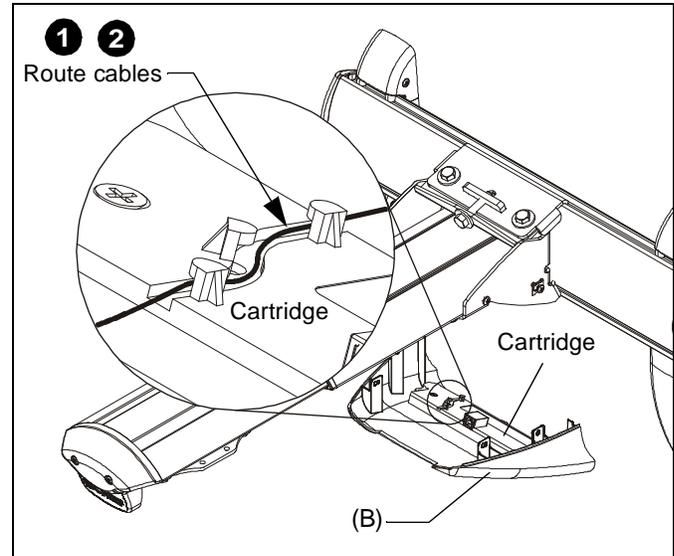

Figure 6
1. Connect USB cable (H) to cartridge in interactive cover (B), and route cable through strain relief channel on cartridge.
2. Route cables from projector through strain relief channel on cartridge in interactive cover (B). (See Figure 6)